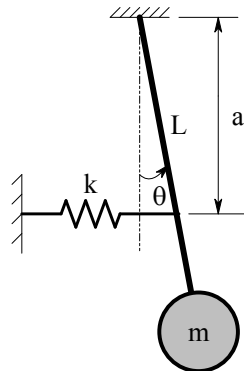

Fig. 4 (a) An oscillating pendulum
- b) Find the frequency of the oscillations of the system shown in Fig. 4(b). The ( 5 )